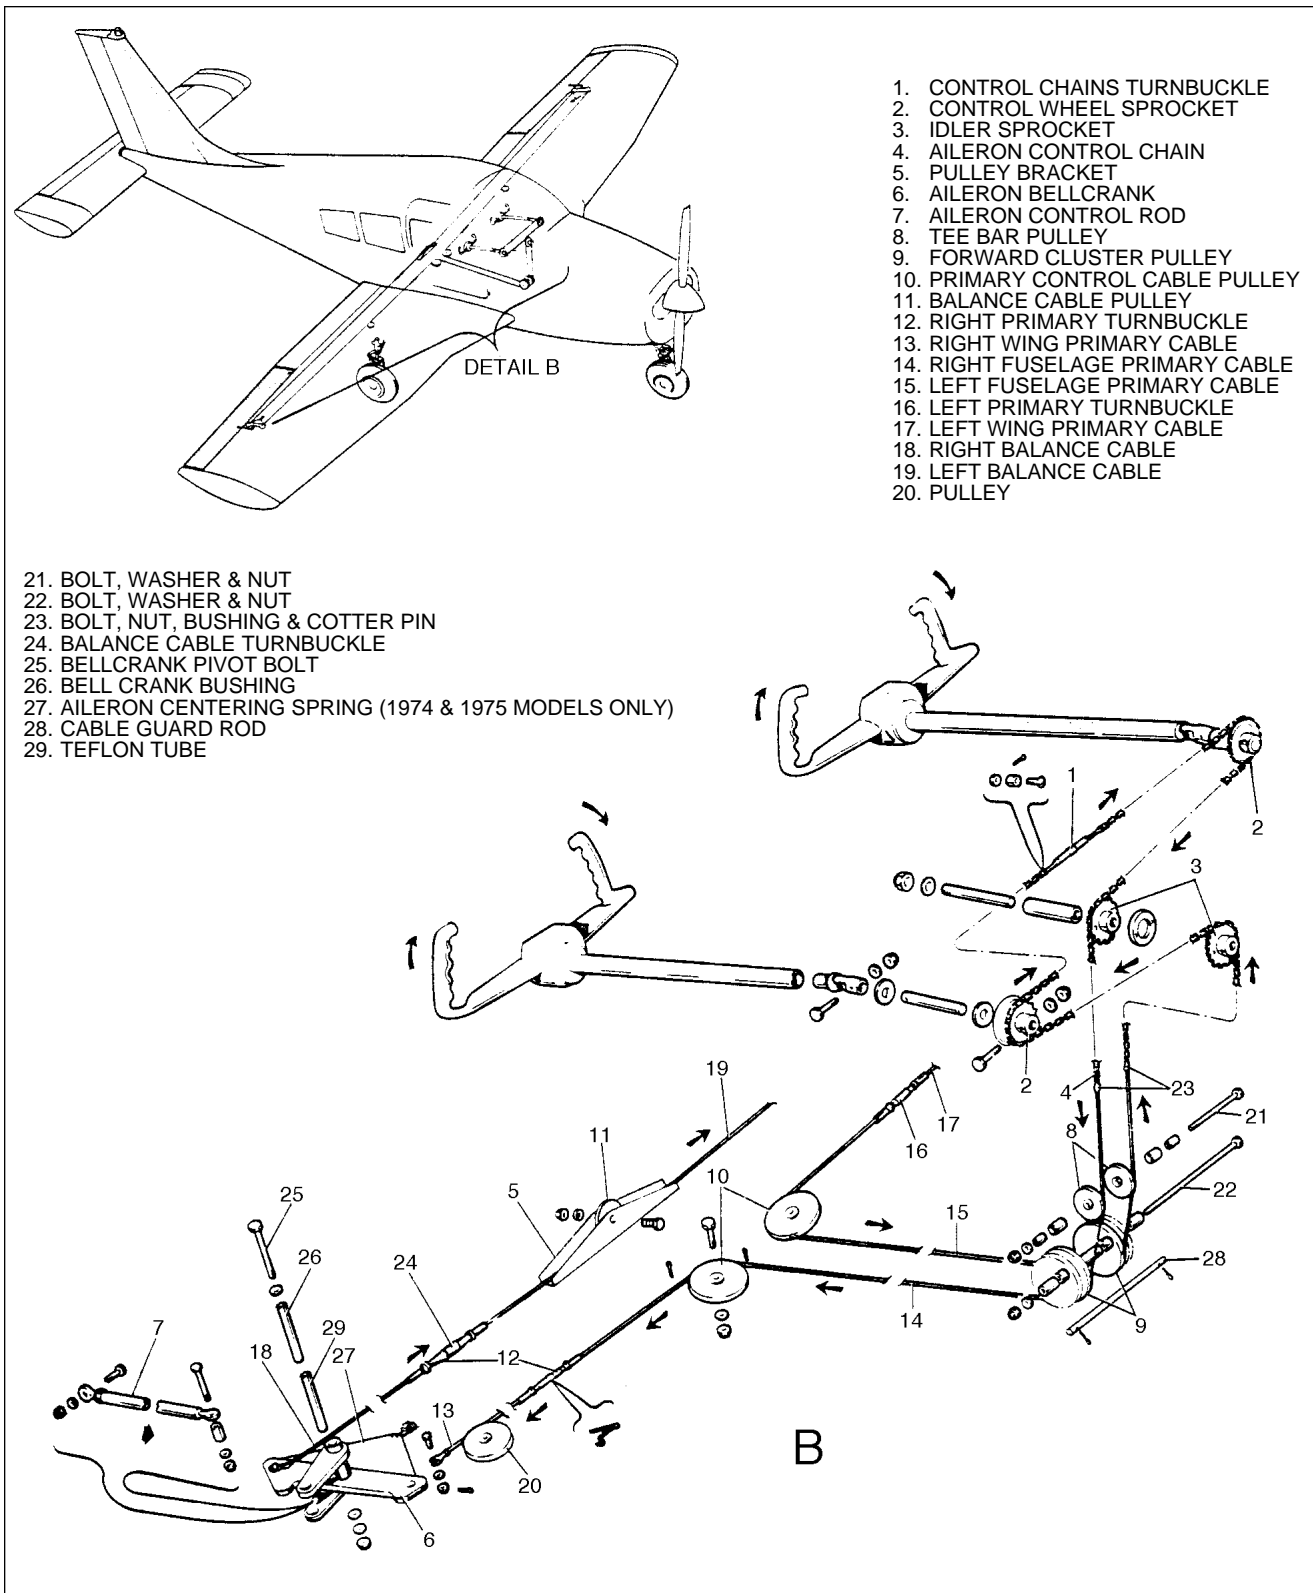

Figure 5-8. Aileron Controls
### 5-11. REMOVAL OF AILERON CONTROL CABLES. (Refer to Figure 5-8.)
1. Separate the balance cable at the turnbuckle (24) in the right side of the opening aft of the main spar.
2. If the left balance cable is to be removed, remove the cotter pin used as a cable guard at the pulley (11) in the center of the opening.
3. Remove the access plate to the aileron bellcrank (6) located on the underside of the wing forward of the inboard end of the aileron.
- 5-12. INSTALLATION OF AILERON CONTROL CABLES. (Refer to Figure 5-8.)
2. Connect the cable, along with the aileron centering plate, to the aft end of the aileron bellcrank (6) using a bolt, washer, nut and cotter pin. Allow the cable end to rotate freely on the bellcrank.
3. Connect the balance cable ends at the turnbuckle (24) that is located under the rear seat aft of the main spar.
4. If the left cable was removed, install the cotter pin cable guard at the pulley (10) located within the fuselage, aft of the main spar.
- 51-13. REMOVAL OF AILERON BELLCRANK ASSEMBLY. (Refer to Figure 5-8.)
- b. Remove the access plate to the aileron bellcrank (6) located on the underside of the wing, forward of the center aileron hinge.
- c. Relieve tension from the aileron control cables by loosening the balance cable turnbuckle (24) located in the opening aft of the main spar.
- f. Disconnect the aileron control rod (7) at the aft or forward end, as desired, by removing the cotter pin, nut, washer and bolt.
## 5-14. INSTALLATION OF AILERON BELLCRANK ASSEMBLY. (Refer to Figure 5-8.)